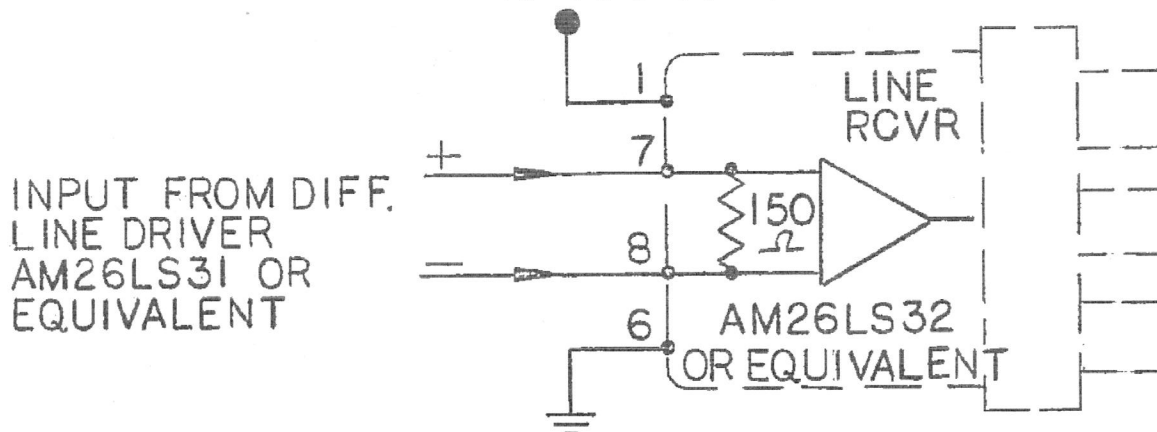

FIGURE 2A
- 3.2.12 Solid State Control. The switch shall be compatible with the EIA RS-422 differential balanced interface. The switch shall be equipped with a balanced TTL line receiver compatible with a balanced line driver similar to the AM-26LS31. An integral terminating resistor of 150 W must be included in the switch. See Figure 2A.